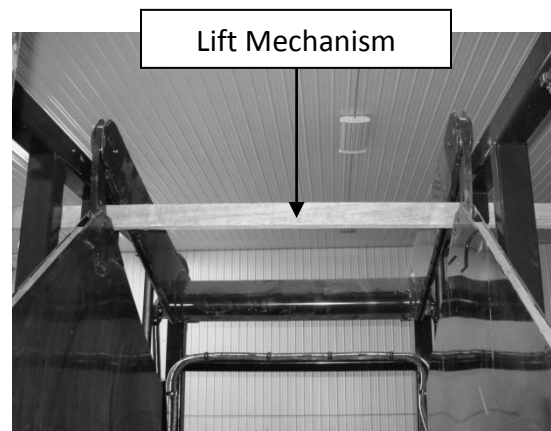

Fig. 6.5
Before any work is done to the Vertical Stacking Accumulator, the Loader Arm must be raised and blocked with a suitable block; wood or metal (Figure 6.5). Failure to do so may result in bodily harm while maintaining this machine.
1. Block loader arm, see page 40 Figure 6.5.